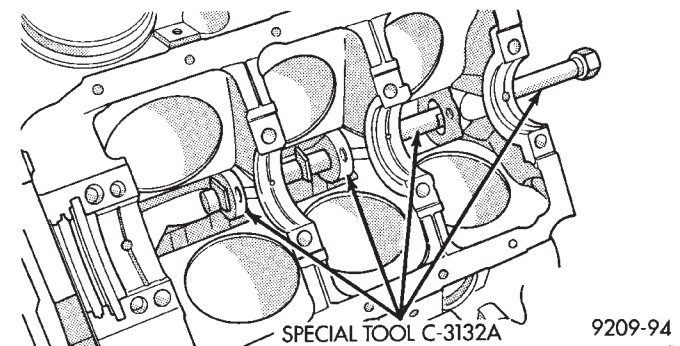

Fig. 42 Camshaft Bearings Removal and Installation with Tool C-3132-A
(1) With engine completely disassembled, drive out rear cam bearing core hole plug.
(2) Install proper size adapters and horseshoe washers (part of Camshaft Bearing Remover/Installer Tool C-3132-A) at back of each bearing shell. Drive out bearing shells (Fig. 42).